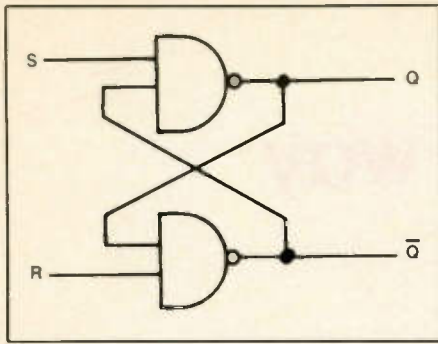

Figure 2
U. What is the state of the NAND gate latch (set-reset flip-flop) illustrated in Figure 2, if input S = 1 and input R = 0: